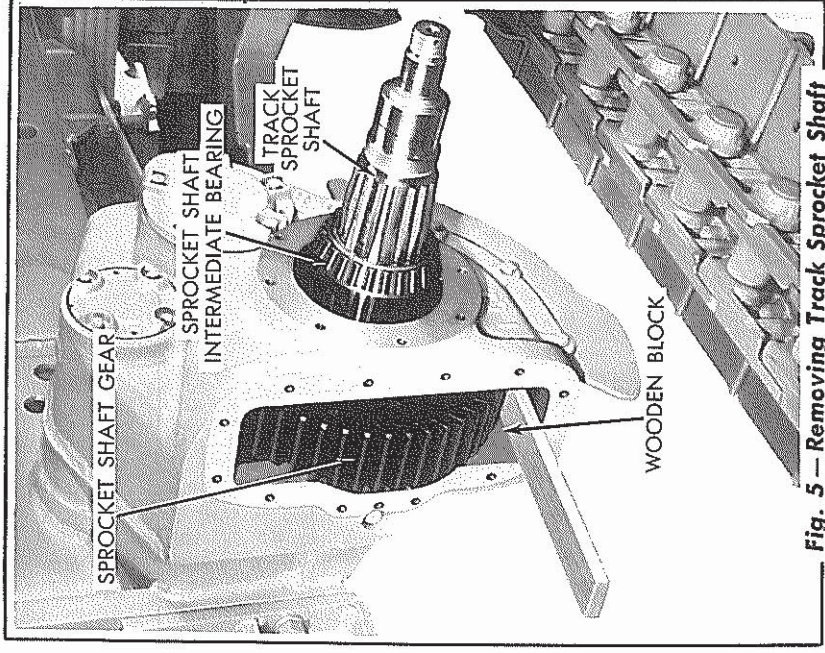

Fig. 5 — Removing Track Sprocket Shaft
9. Place suitable blocking under the sprocket shaft gear as shown in Fig. 5, to prevent the gear from dropping when the sprocket shaft intermediate bearing cage is removed.